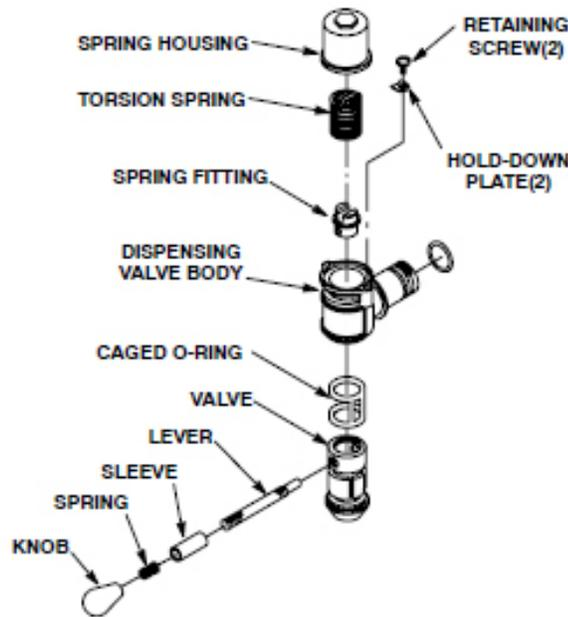

Figure 38. Self-Closing Dispensing Valve
Refer to Figure 38 and perform the procedure in Table 37 to lubricate or change the caged o-rings in each dispensing valve on the unit.
6.	Disassemble the dispensing valve (see Figure 38).